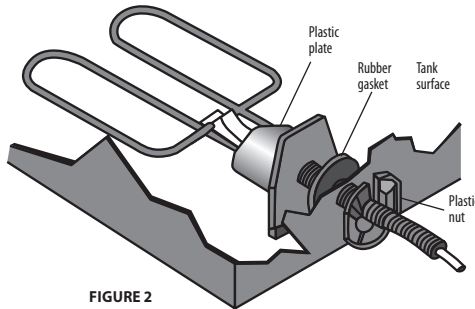

FIGURE 2
- Set the de-icer on the inside of the tank. Let it rest on the bottom of the tank. The rubber gasket should be between the inside of the tank surface and the plastic plate of the heater housing (see figure 2).
- Tighten the nut onto the threaded stem of the heater housing and up against the outside tank surface. Position the nut so that the raised ring fully inserts into the drain hole of the tank (see figure 2 and 5). This is only necessary if you have determined that this ring is of smaller diameter than the drain opening in your tank as tested by completing step #2. This will stabilize the de-icer.